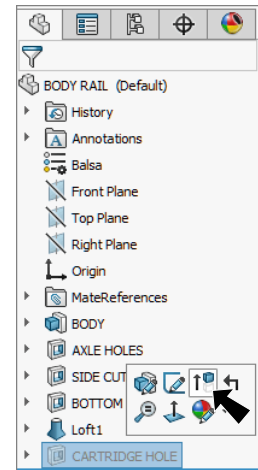

Fig. 60
Step 2. Click the suppressed **CARTRIDGE HOLE** and click **Unsuppress**  in the context toolbar, **Fig. 60**.